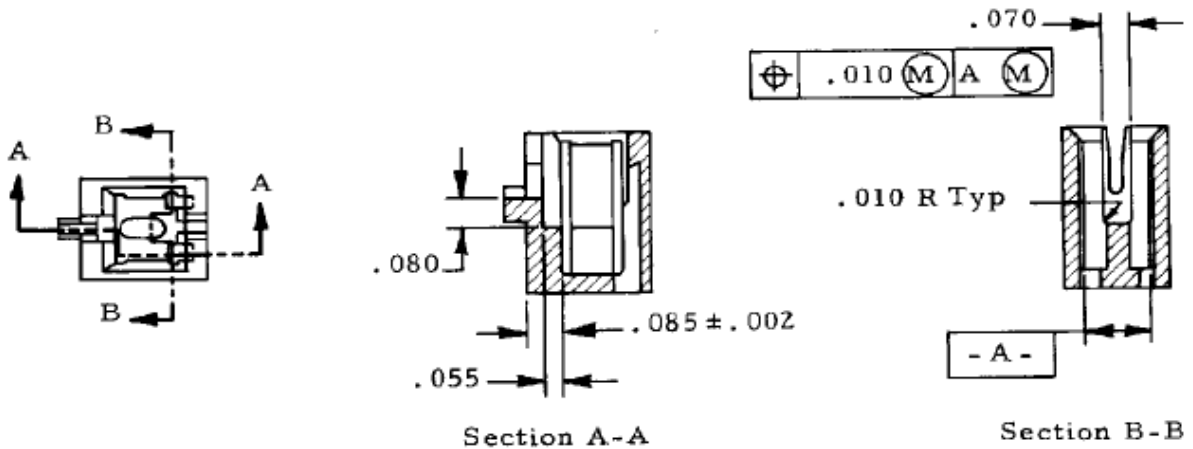
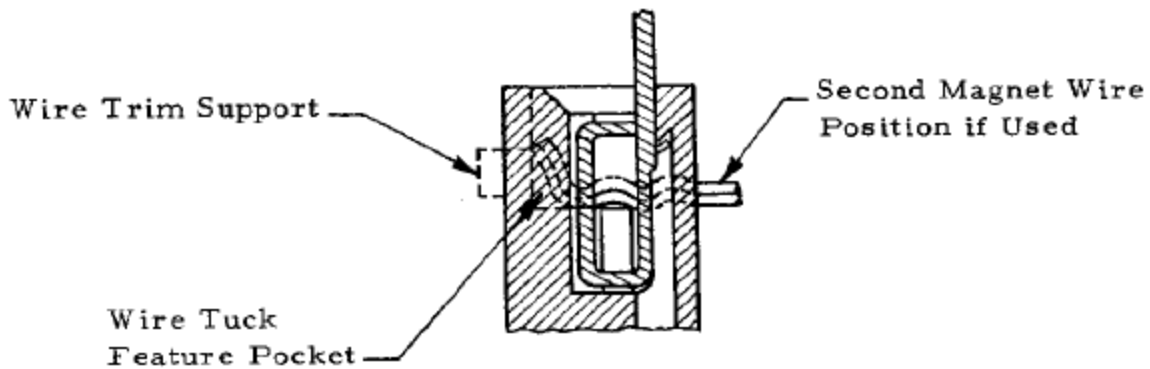

Figure 3
Figure 8
Cavity option 2 has a tuck feature which allows the terminal to pull the exposed end of the magnet wire into a pocket inside the cavity for total magnet wire isolation. See Figure 3.
Same as Figure 3, except wire slot flash added.
2. Magnet wire shall contact the top of the cavity anvil as indicated in Figure 8 when terminals are inserted in cavity design option 2 (see Figure 3) which contains a wire trim support and wire tuck feature pocket. This cavity contains a wire trim support, on which the magnet wire rests prior to terminal insertion and is removed during the application process. After termination to magnet wire is positioned within the confines of the wire tuck feature pocket as indicated in Figure 8.